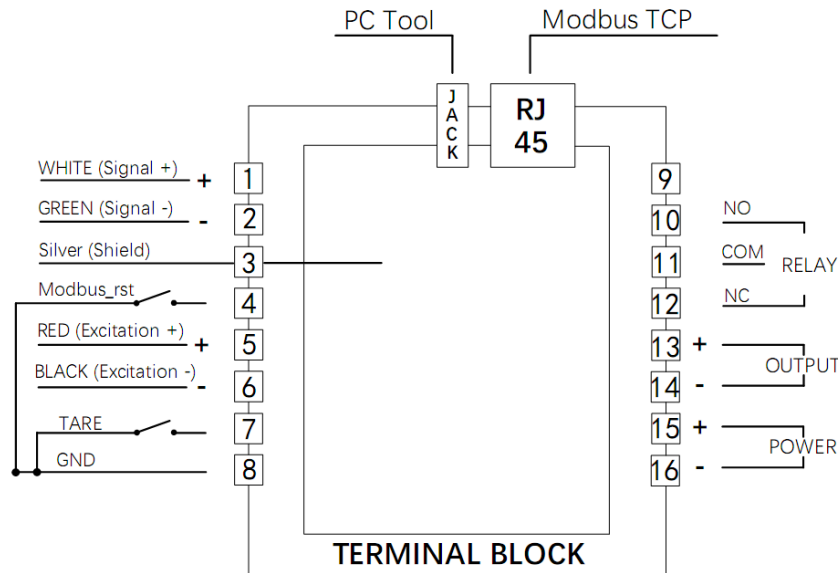

Fig 2: Terminal block (TB) definition PTR transmitter
While using Modbus, if the Ethernet configuration (including IP, gateway, subnet mask, and port) is forgotten, the transmitter cannot be communicated to anymore. This can be solved by resetting the Modbus configuration. Refer to Fig 2: Terminal block (TB) definition PTR transmitter. It's done by shorting terminals Nos. 4 and 8.